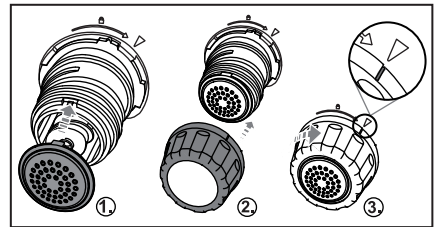

Fig. 5
- 8) Select the appropriate shaping disc **8** (see section **Shaping discs**) and slide it onto the bracket **12** so that the two catches on the shaping disc **8** slide into the recesses on the bracket **12** (fig. 5).
- 9) Push the shaping disc fixture **14** onto the bracket **12** and tighten it by turning it clockwise towards the  symbol (fig. 5). Fix the shaping disc **8** in place with your free hand if necessary.